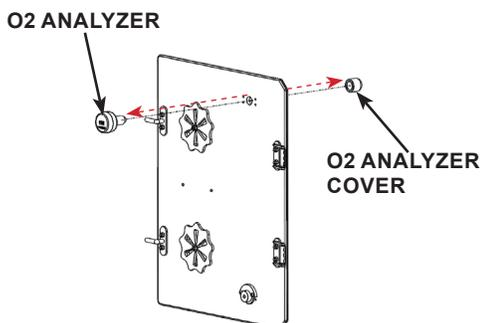

FIGURE 3.18 - O₂ Analyzer Removal
- A:** O₂ analyzer - Remove the O₂ Analyzer by turning the cover (backside) counterclockwise, slide the O₂ Analyzer out of the hole. Set aside for the moment. See FIGURE 3.18